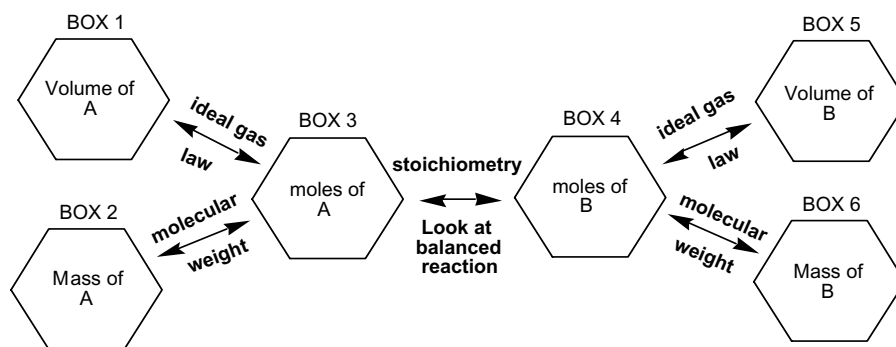

Figure 2. Flowchart for performing gas stoichiometry problems.
As with any problem involving gases, the ideal gas law ($PV = nRT$) will be important. In most gas stoichiometry problems, you are given information (mass, volume or moles) for one substance (A) and must make a conclusion about how much (mass, volume or moles) of another substance (B) can be produced. Take a moment to examine the following flow chart (Figure 2), which summarizes the typical steps in a gas stoichiometry problem. Each double-headed arrow represents one step in solving the problem. The actual number of steps in your calculation will depend on the initial known values and the desired unknown quantity.
Step 2: Outline your problem using the flowchart in Figure 2